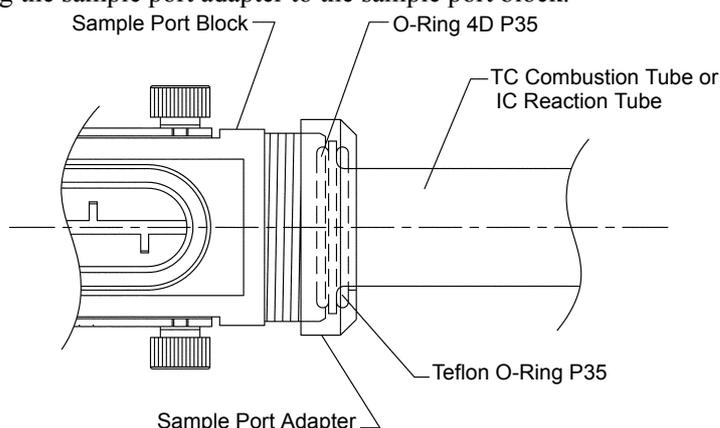

Figure 5.9 • Installing the TC Combustion Tube or the IC Reaction Tube
3. Insert the O-ring 4D P35 into the groove in the sample port block, as shown in “Figure 5.9 • Installing the TC Combustion Tube or the IC Reaction Tube”.